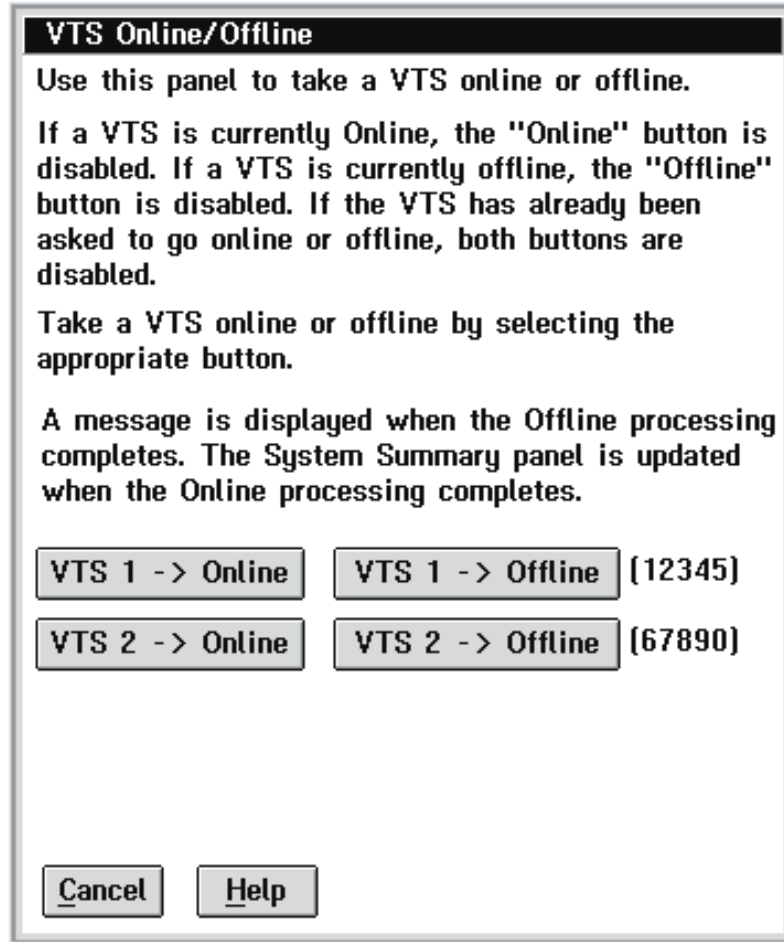

Figure 107. VTS Online/Offline Pop-Up Window
3. From the **Service** pull-down, shown in Figure 106 on page 175, select **VTS Subsystem Management** and **Online/Offline** to display the VTS Online/Offline Panel (Figure 107 on page 176).
Figure 107 on page 176 shows the VTS Online/Offline Pop-Up Window.